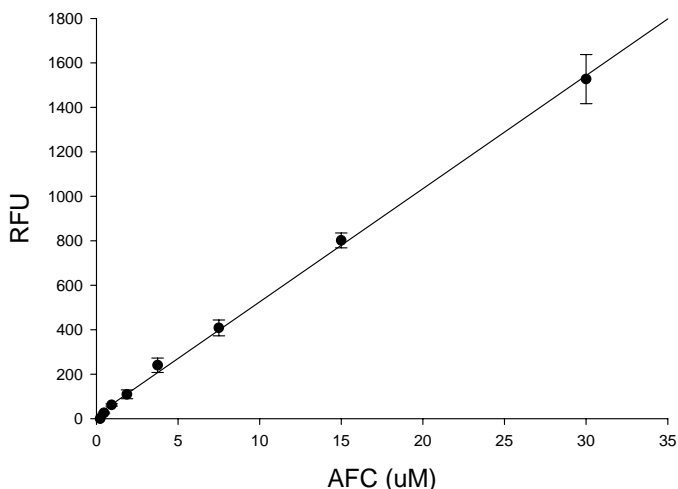

Figure 1. The AFC reference standard calibration curve.
- Plot AFC fluorescent reference standard as RFU (relative fluorescent unit) versus concentration as **Figure 1**.